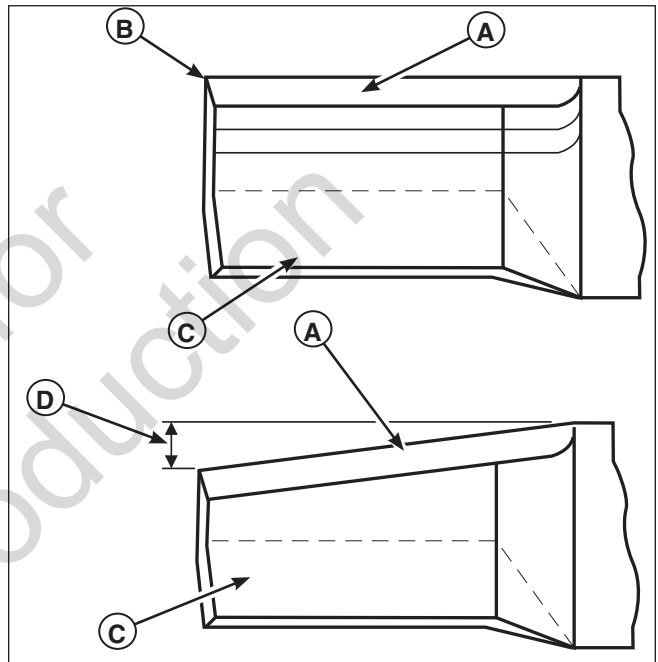

Figure 13. Inspecting the Mower Blade Tips
2. Inspect the mower blade (Figures 13 & 14). **Discard the mower blade if it has any of the below conditions.**
- A.) Has more than .5" (12,7 mm) of the mower blade metal removed from previous sharpening or wear (D, Figure 13).